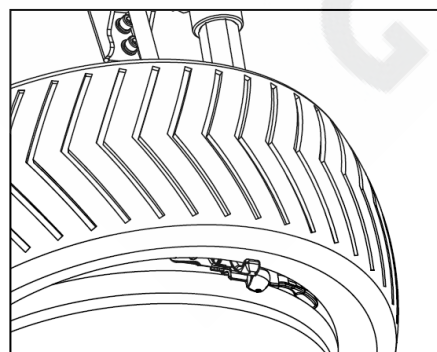

FIG32
- After separate the upper tire lip, take out the inner tube if has. Lift the lower tire lip to rim edge. Lower the hook and take the lower tire lip like FIG32 then step the rotation pedal to separate the lower side.